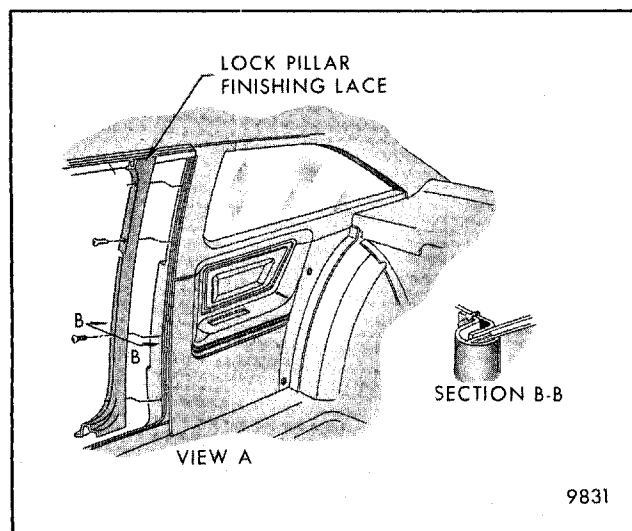

Fig. 6-11-Body Lock Pillar Finishing Lace - A Styles
2. On A styles remove screws retaining trim and pull forward (Fig. 6-11).